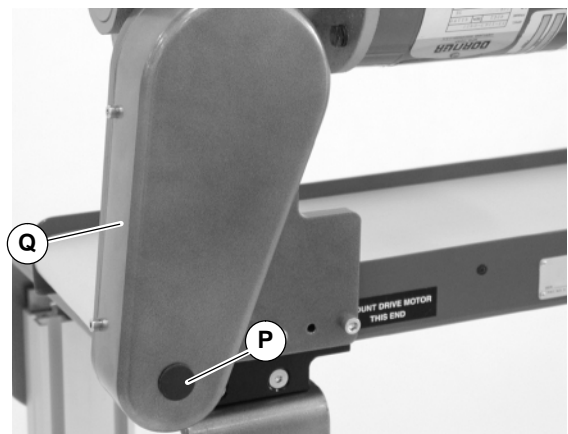

Figure 6
1. Remove plug (P of Figure 6) from belt guard (Q).
5. Replace plug (P of Figure 6).